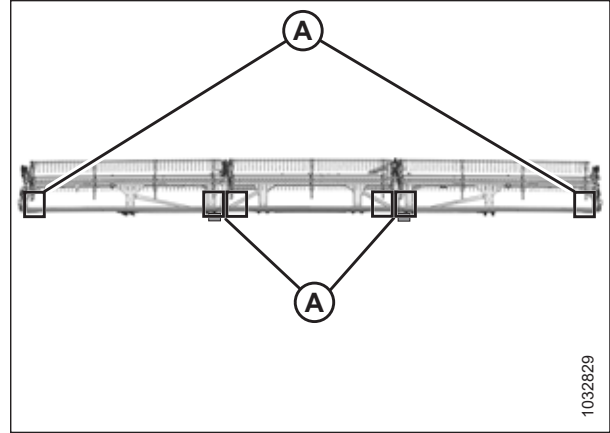

Figure 6.60: FlexDraper® Measurement Locations – Triple Reel
- Figure 6.60, page 124 – triple reel